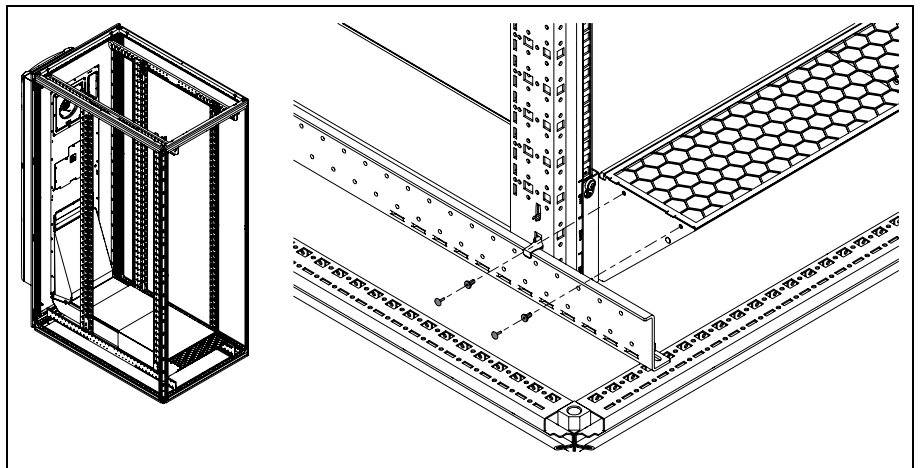

Fig. 24: Insert the split rivets
■ Then, secure the protective grille using four split rivets (fig. 24).